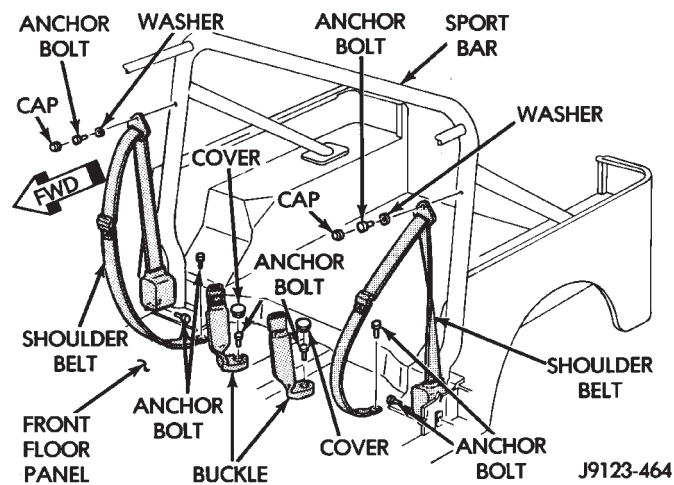

Fig. 22 Front Shoulder Belts
(1) Remove the cover and the shoulder belt buckle anchor bolt from the floor panel (Fig. 22).
(2) Remove the shoulder belt buckle from the floor panel (Fig. 22).
(3) Remove the cap, shoulder belt upper anchor bolt, washer and guide from the sport bar (Fig. 22).
(4) Remove the retractor anchor bolt from the door sill (Fig. 22).
(5) Remove the anchor bolt that attaches the lower part of the shoulder belt to the floor panel (Fig. 22).
(6) Remove the shoulder belt from the vehicle.
(7) Inspect the shoulder belt for evidence of wear, cuts and fraying. Replace any belt that is damaged.
(1) Position the end of the shoulder belt at the floor panel and the retractor at the door sill (Fig. 22).
(2) Install the anchor bolts (Fig. 22). Tighten the bolts to 41 N·m (30 ft-lbs) torque.
(3) Position the shoulder belt guide on the sport bar and install the anchor bolt (Fig. 22). Tighten the bolt to 41 N·m (30 ft-lbs) torque.
(4) Install the cap on the anchor bolt (Fig. 22).
(5) Install the shoulder belt buckle at the floor panel with the anchor bolt. Tighten the bolt to 41 N·m (30 ft-lbs) torque.
(6) Install the cover on the anchor bolt (Fig. 22).